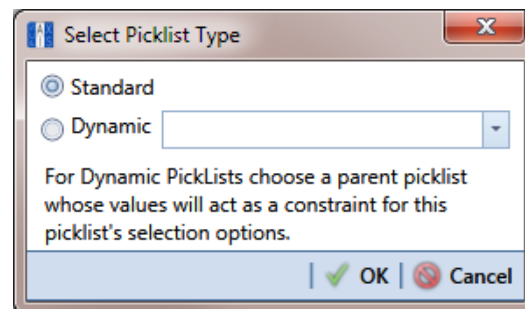

Figure 3-39. Select Picklist Type
- 4 Click  **Picklist** in the toolbar to open the *Select Picklist Type* dialog box (Figure 3-39).